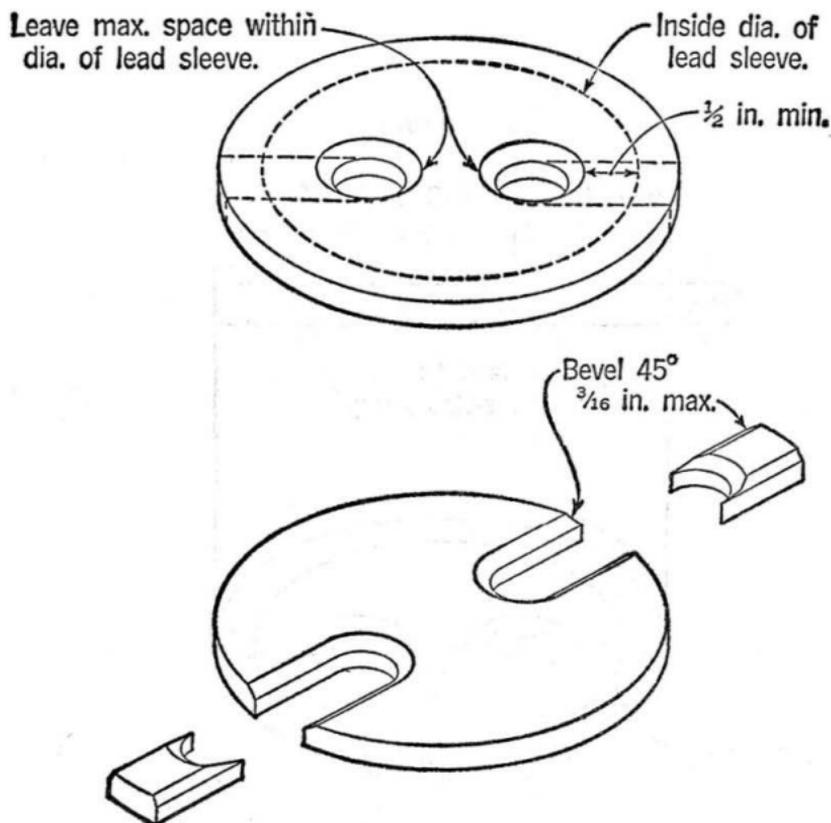

Fig. 5
3.03 **Cable Looped**—When the main cable is looped it will be necessary to open the sides of the disc as illustrated in Fig. 5. Prepare the disc as covered in Paragraph 3.01.